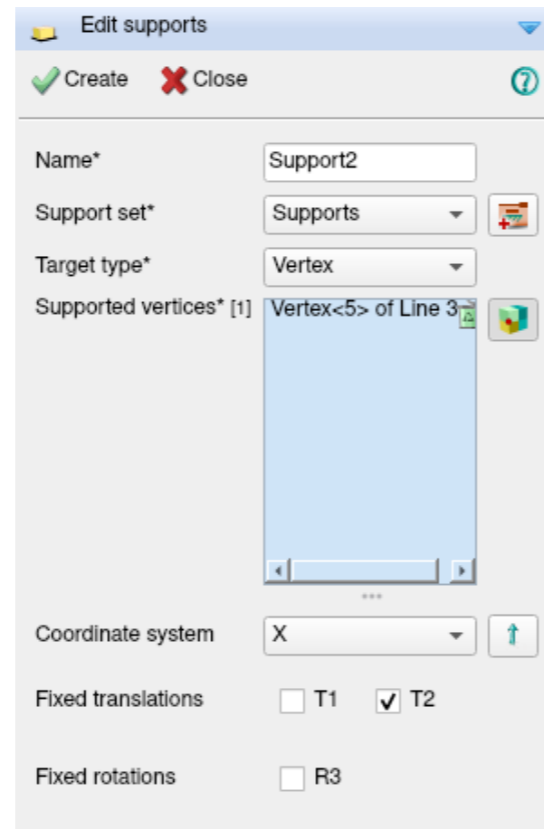

Figure 17: Attach right support
**Main menu** → Geometry → Assign → Supports [Fig. 17]